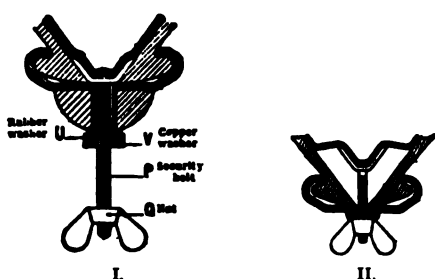

FIG. 129.—POSITIONS AND PARTS OF TIRE SECURITY-BOLTS.
possibly stick to the cover. (See Fig. 129.) The next operation is (7) freeing the outer (farthest from the car) beading of the cover from the rim. Levers of different designs are furnished by